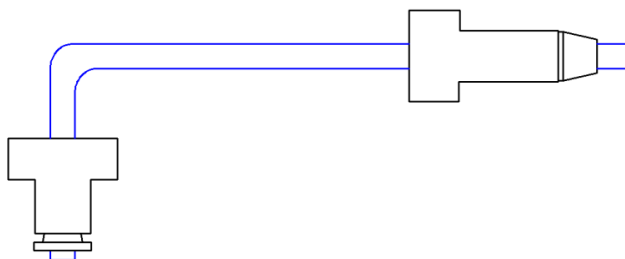

Figure 5-3 Correct Position Relation between the Sample Needle and Connectors
7. Then, unscrew the connecting nut 3 and take out the tubing to check whether the front of the tubing is flush with the ferrule (as shown in Figure 5-3).